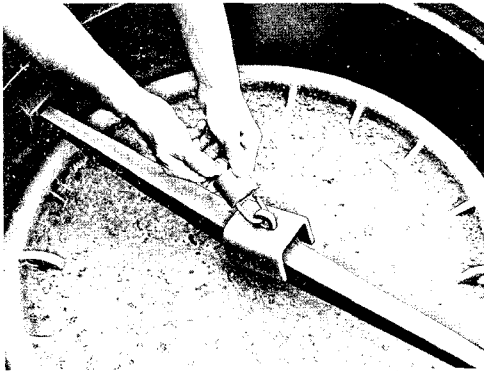

Fig. 25—♦Unlocking Padlock♦
- (1) Unlock and remove the padlock, if one is used (Fig. 25); remove the saddle plate (Fig. 26); and loosen the locking bar screw. The screw can be turned with the point of a manhole hook or other suitable tool (Fig. 27).
- (2) Disengage the locking bar from the locking bar catches and remove it.